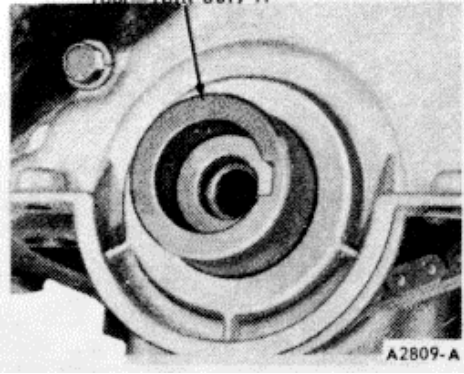

FIG. 43 Aligning Cylinder Front Cover
3. Install the cylinder front cover using the tool shown in Figure 43. Torque the attaching bolts to specifications.